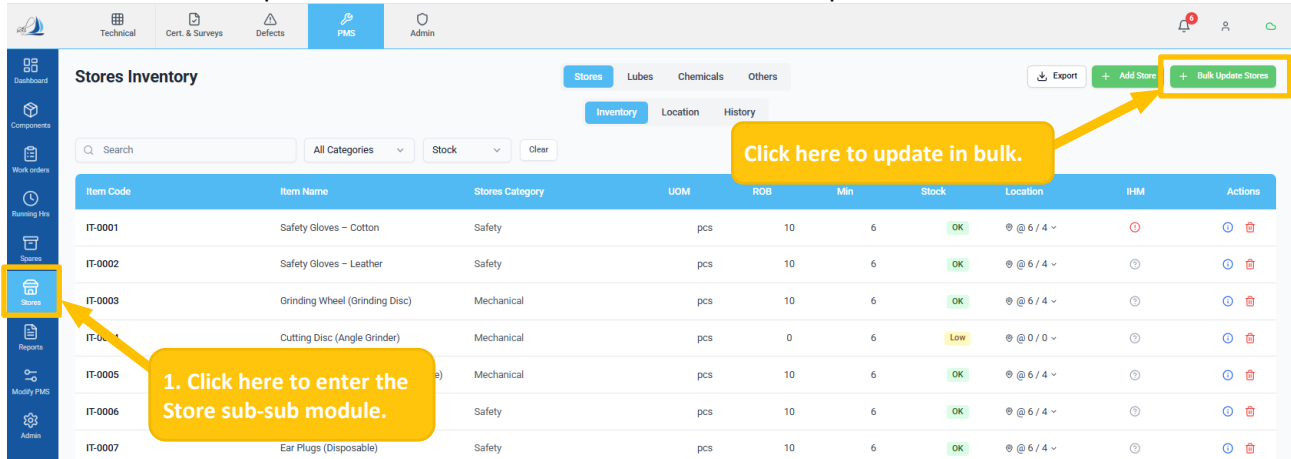

Figure 64
- Click the 'Store' sub-sub-module. (Ref Figure 64)
- Click on the '+ Bulk Updates Store' button. (Ref Figure 64)